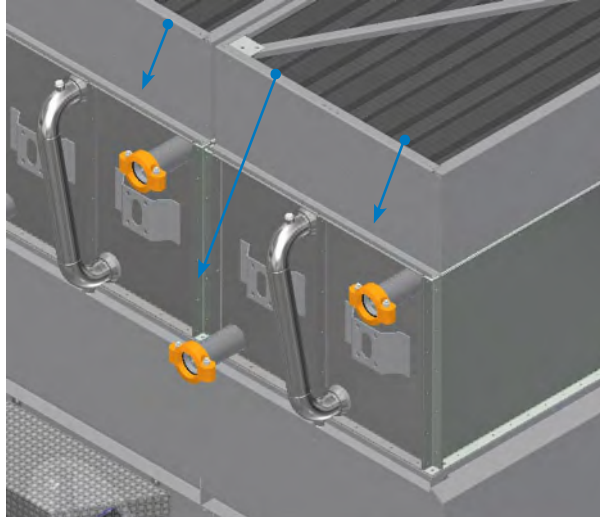

Figure 20. Place Flexible Coupling (Series Flow Shown)
2. Place the 3" flexible coupling (VITAULIC®, BAC #202174M6) onto the hCore® Heat Transfer System. See **Figure 20**.